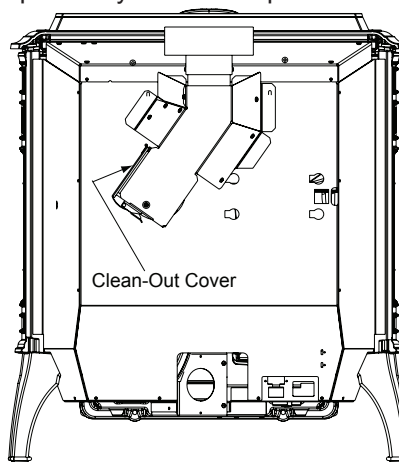

Figure 29.1
- b. Open the clean out cover (**Figure 29.1**).